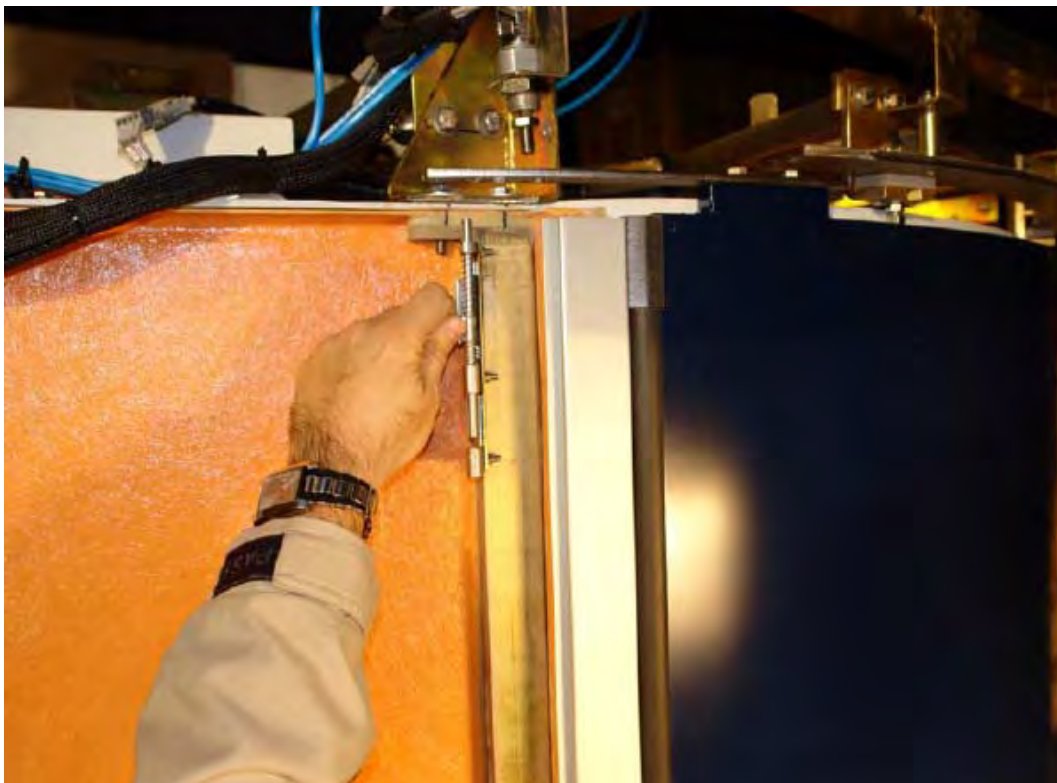

Figure 2: Manual Locking Bolt
- Manually lock the door by using the manual locking bolt (see Figure 2) and check the following: